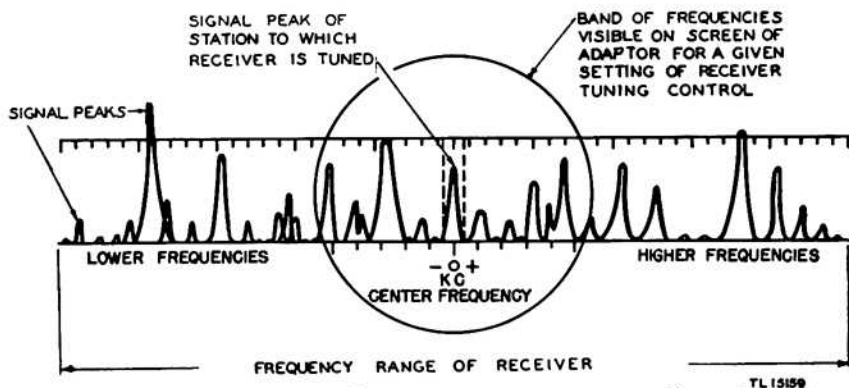

Figure 3. Portion of radio-frequency spectrum.
(baseline) of the screen, *frequencies* are shown, and on the vertical axis, *signal amplitudes* are shown (fig. 3).
**a. Spectrum.** The entire strip in figure 3 represents the portion of the radio-frequency spectrum covered by the tuning of the receiver.
(1) The circle in the center represents the frequency range or band visible on the screen of the panoramic adaptor.